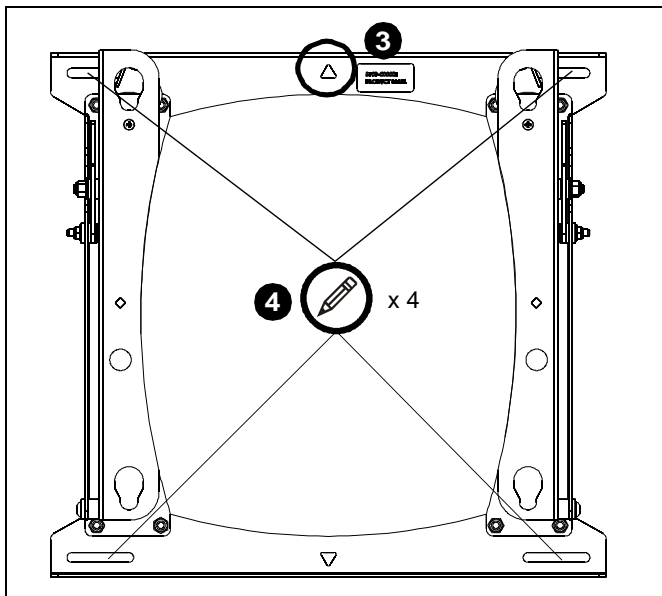

Figure 1
3. **OPTIONAL:** Use a nail as a temporary mount and hang the PRO16 on the wall using the triangular hole in the center of the PRO16. (See Figure 1)
4. Level the PRO16 and mark the four mounting holes. (See Figure 1)